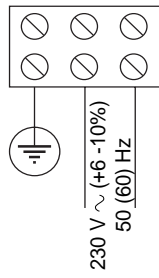

Fig. 12
- ① Fuse F1 1AT/230Vac - 5x20
- ② Terminal strip X1 (230 V) - fig. 12
- ③ Low voltage terminal strip X2 / X4